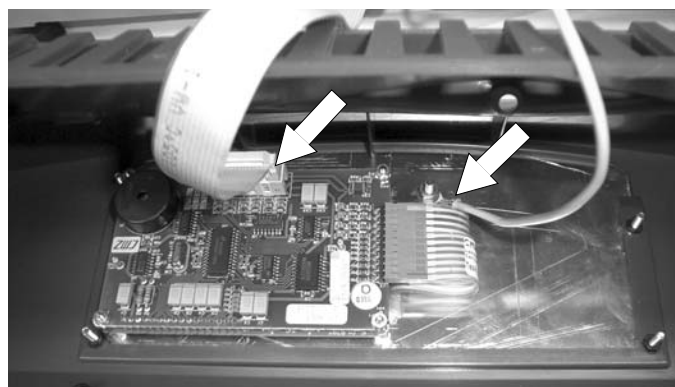

Fig. 36
- 3) detach the wire and earth wire from the keypad (fig. 36).
- 3) detach the wire and earth wire from the keypad (fig. 36, page 73).